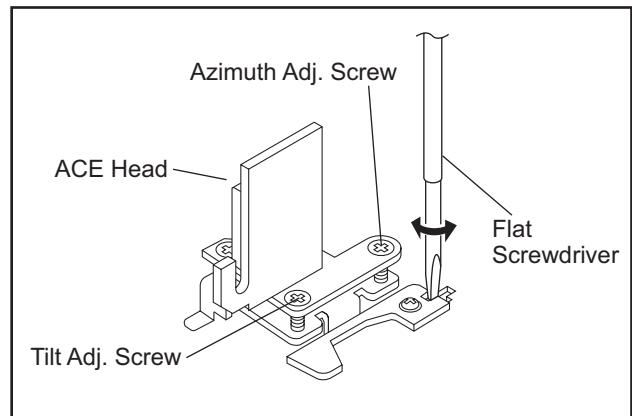

Fig.6
(4) If creasing or snaking is apparent, adjust the Tilt Adj. Screw of the ACE Head. (Fig. 6)
- (1) Connect the oscilloscope to TP301 (C-PB) and TP501 (CTL) on the Main CBA. Use TP504 (RF-SW) as a trigger.
- (2) Playback the Gray Scale of the Alignment Tape (FL6NS8) and confirm that the PB FM signal is present.
- (3) Set the Tracking Control Circuit to the preset position by pressing "PR +" button and then "▶" button on the unit. (Refer to note on bottom of page 1-34.)
- (4) Use the Flat Screwdriver so that the PB FM signal at TP301 (C-PB) is maximum. (Fig. 6)
- (5) To shift the CTL waveform, press "PR +" or "PR -" button on the remote control unit. Then make sure that the maximum output position of PB FM envelope signal becomes within $\pm 2\text{ms}$ from preset position.